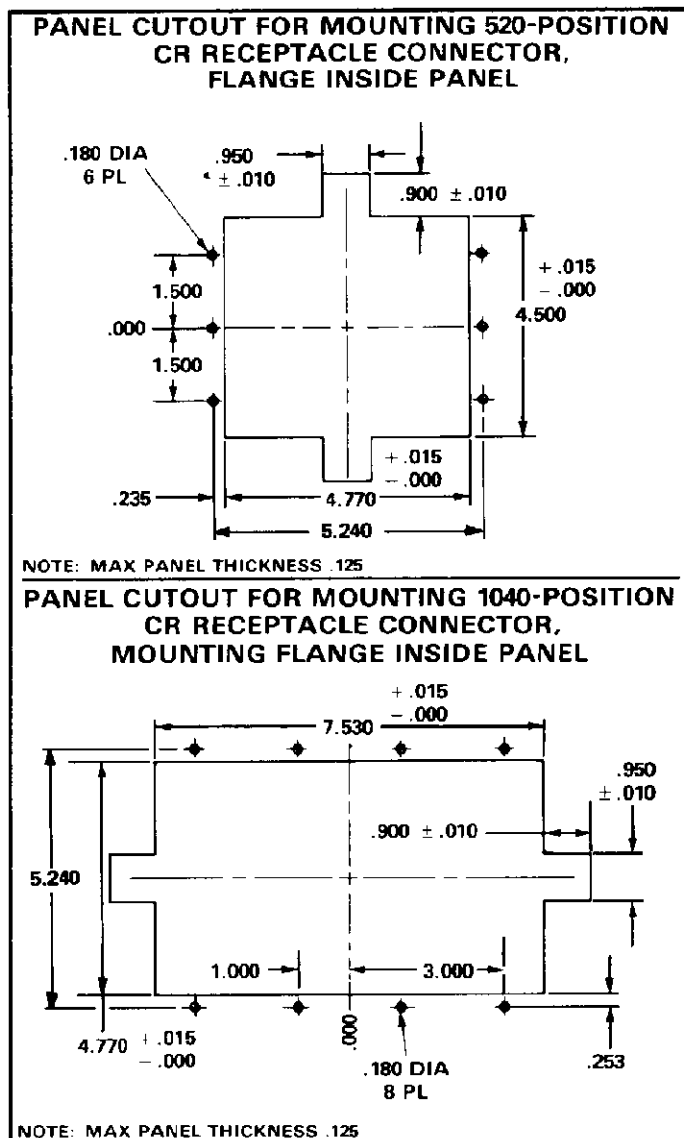

Fig. 5
3. Mount the loaded receptacle frame in the panel (from front or back) and secure with appropriate hardware. Refer to Figure 5 for panel-cutout dimensions required for mounting the receptacle connector flange inside the panel.